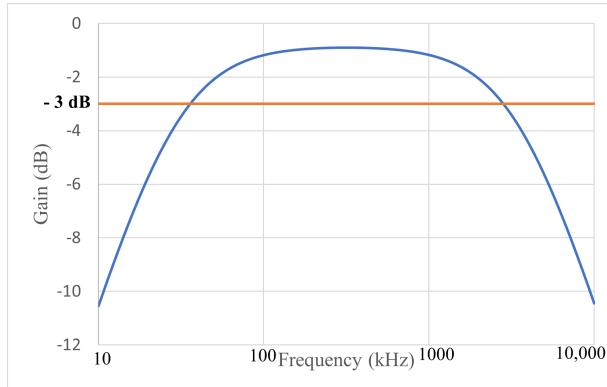

Figure 30: Frequency response of a band pass filter
i.e., change in gain of the filter as function of frequency, for  $R1 = 1 \text{ k}\Omega$ ,  $C1 = 0.5 \text{ nF}$ ,  $R2 = 10 \text{ k}\Omega$  and  $C2 = 5 \text{ nF}$  is shown in Figure 30.